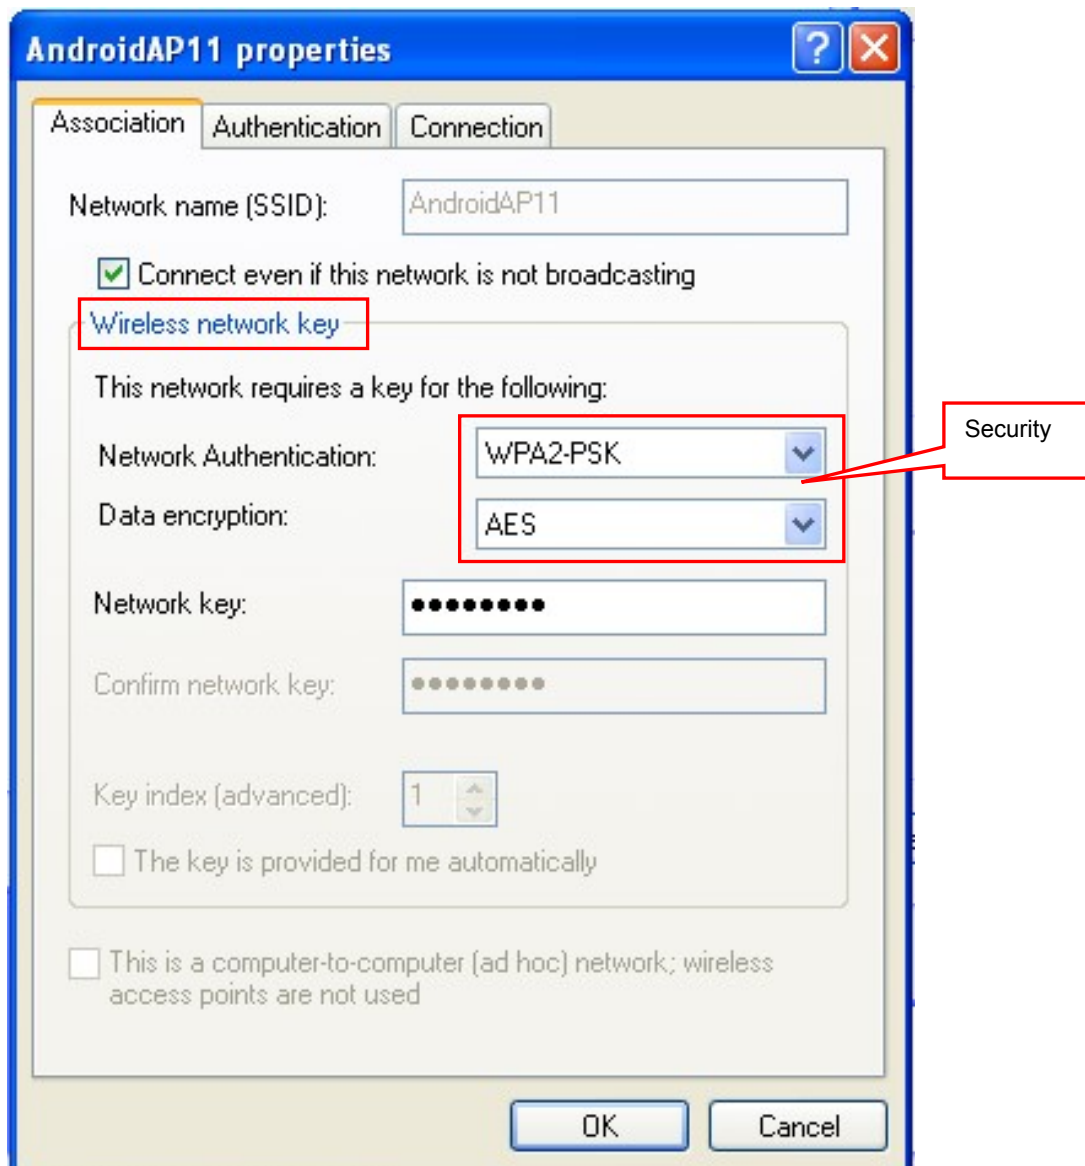

Figure 9
- (4) When the window of "Properties" pops up, find the security in the item of "Wireless network key". (As shown in figure 9)